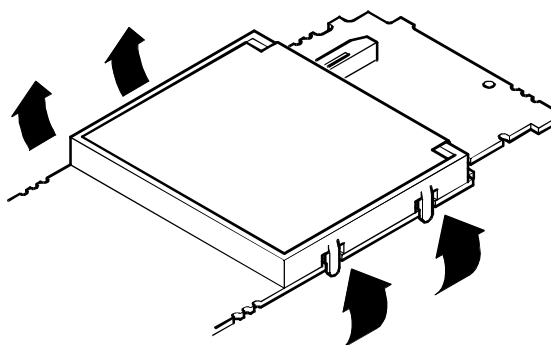

Figure 8: LCD/earpiece holder removal
10. (Figure 8) Gently bend the lugs on the LCD holder outwards and lift from the logic PCB.